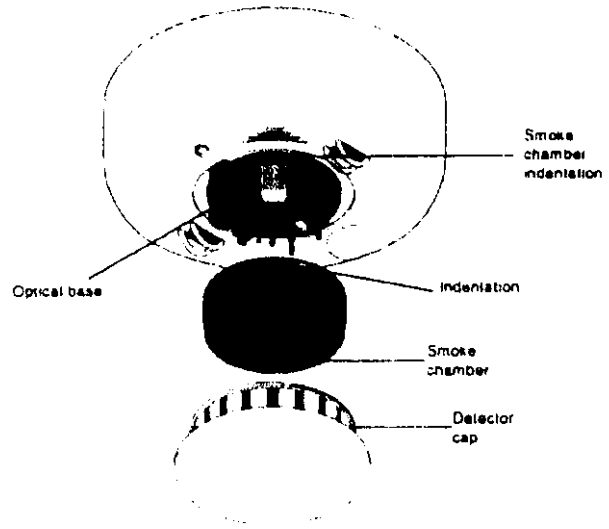

Figure 6
3. Press in on the sides of the smoke chamber and pull it up and away from the detector and discard. See Figure 6.